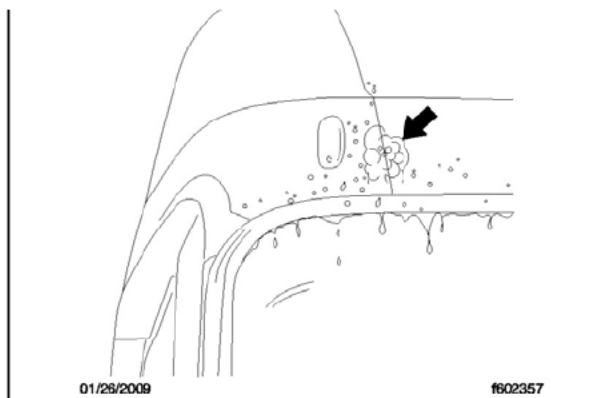

Fig. 1, Cab Water-Leak Detection with Wash Solution
6. Spray the cab, and sleeper if so equipped, with the wash solution, and look for bubbles. See Fig. 1 . Inspect all applicable areas listed below: